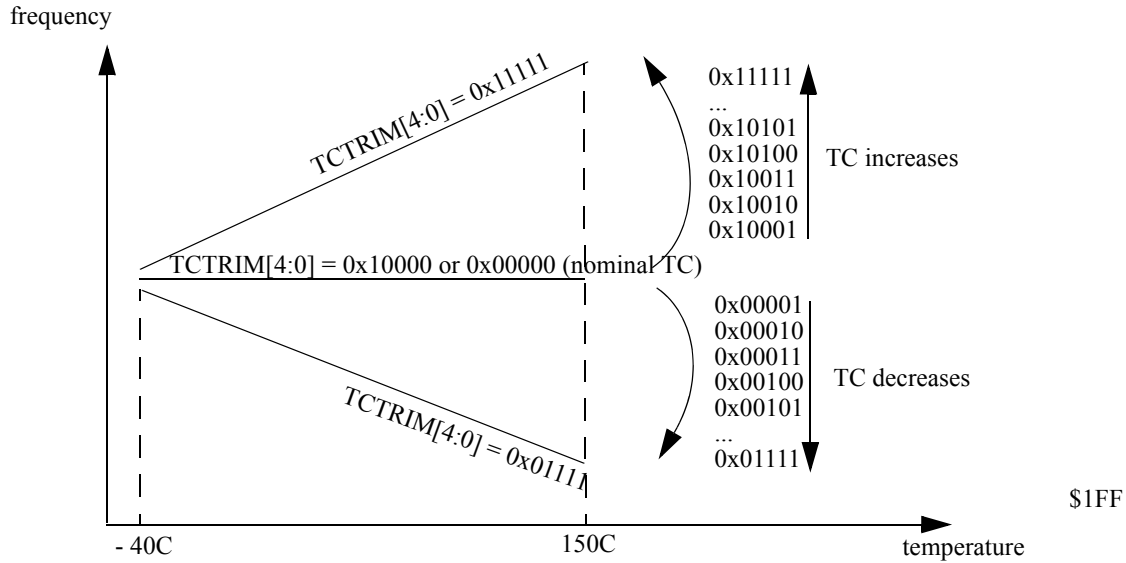

Figure 86. Influence of TCTRIM[4:0] on the Temperature Coefficient
15-11 TCTRIM	IRC1M temperature coefficient Trim Bits Trim bits for the Temperature Coefficient (TC) of the IRC1M frequency. Figure 86 shows the influence of the bits TCTRIM[4:0] on the relationship between frequency and temperature. Figure 86 shows an approximate TC variation, relative to the nominal TC of the IRC1M (i.e. for TCTRIM[4:0]=0x00000 or 0x10000).